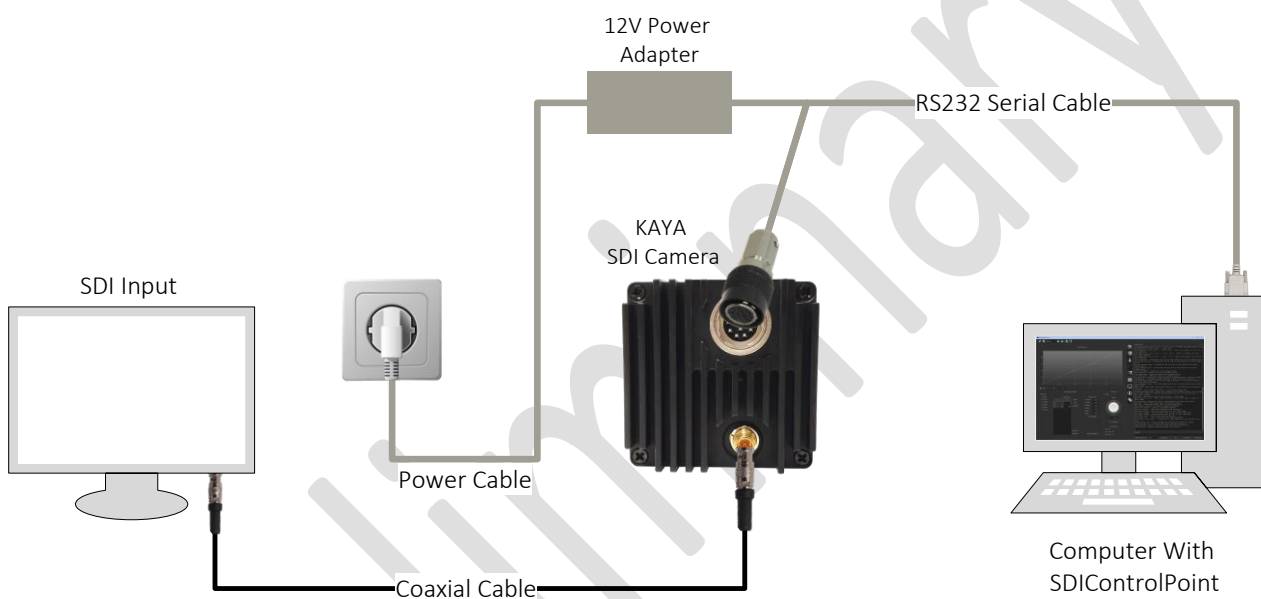

Figure 1 – Camera connections diagram
| Figure 1 – Camera connections diagram..... | 11 |
2. Make sure that all components are properly connected (camera, cables and capture card). See Figure 1 and section 9.2 Micro BNC Connector.